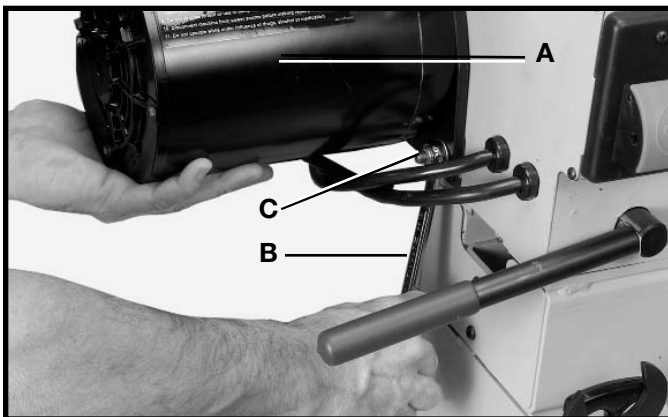
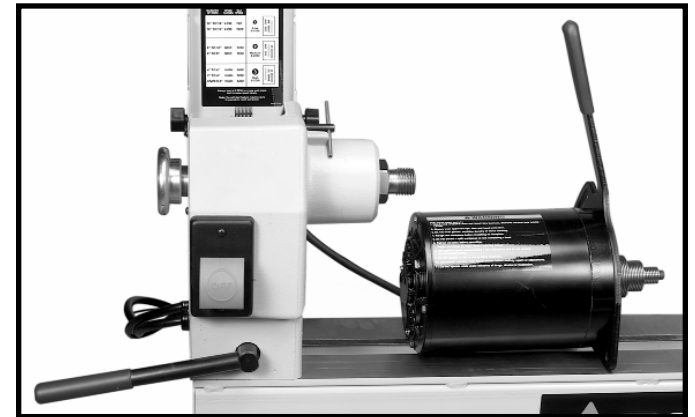

Fig. 73
Fig. 74
3. While holding the motor (A) Fig. 73 with one hand, use a 9/16 inch wrench (B) to remove nut (C). Lift motor (A) and remove belt from motor pulley.
4. Pull motor (A) Fig. 73 out, bring it around the back of the lathe, and place it on the lathe bed (Fig. 74)